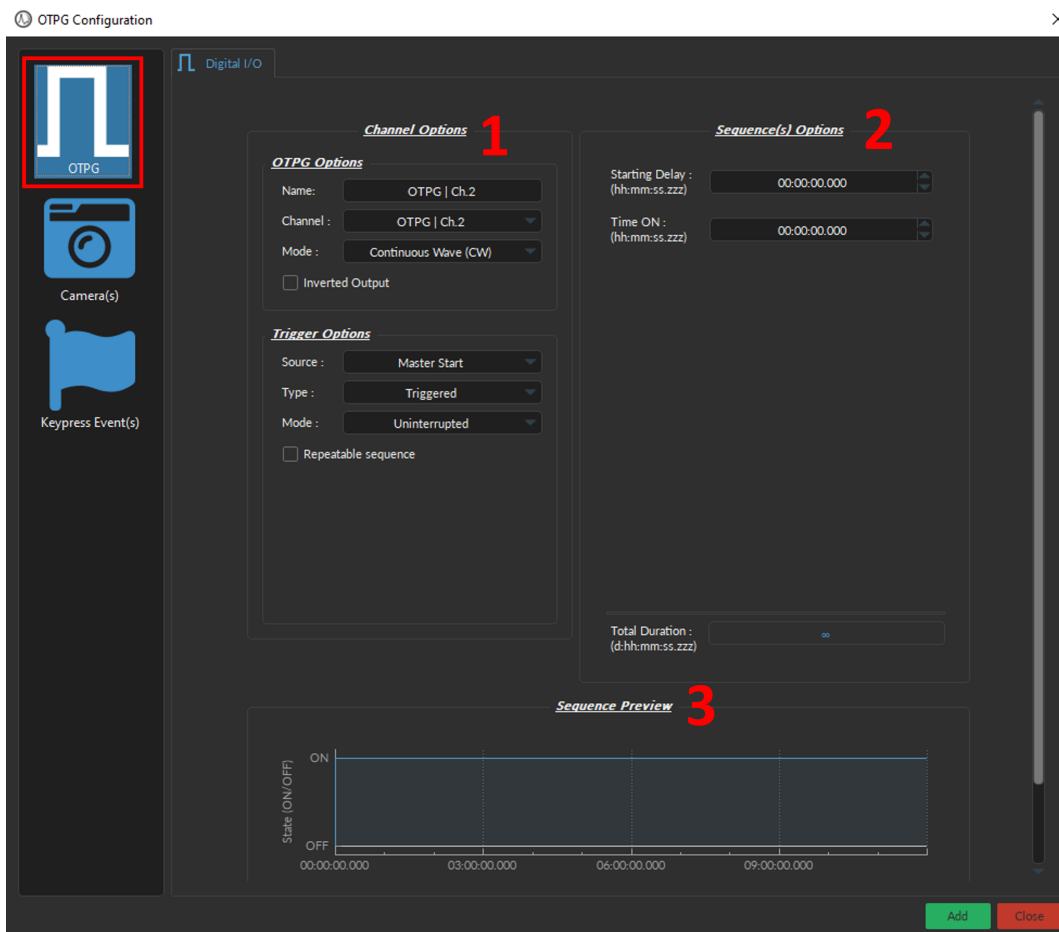

Figure 10.10: OTPG Configuration Window, Digital I/O
The *OTPG configuration* window for the **Digital I/O** Channel is divided into three sections (Fig. 10.10): (1) the **Channel Options** (Section 10.2.3.1), (2) the **Sequence Options** & (3) **Preview** (both treated in Section 10.2.3.2).